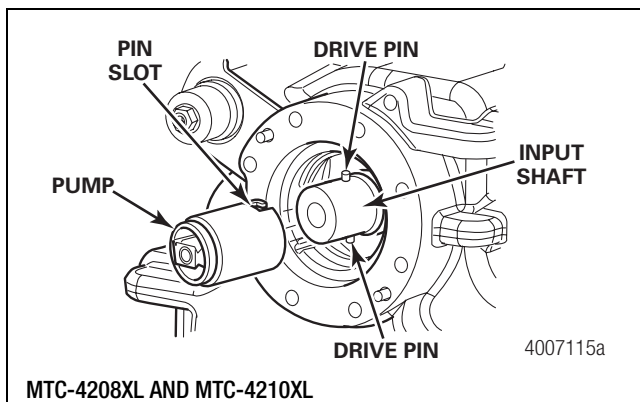

Figure 6.39
3. Place the pump onto the input shaft. Rotate the pump assembly to engage the drive pins. Ensure that the pump is correctly seated. Leave 3/16-inch (4.763 mm) of the drive pins extending from the input shaft. Figure 6.39.